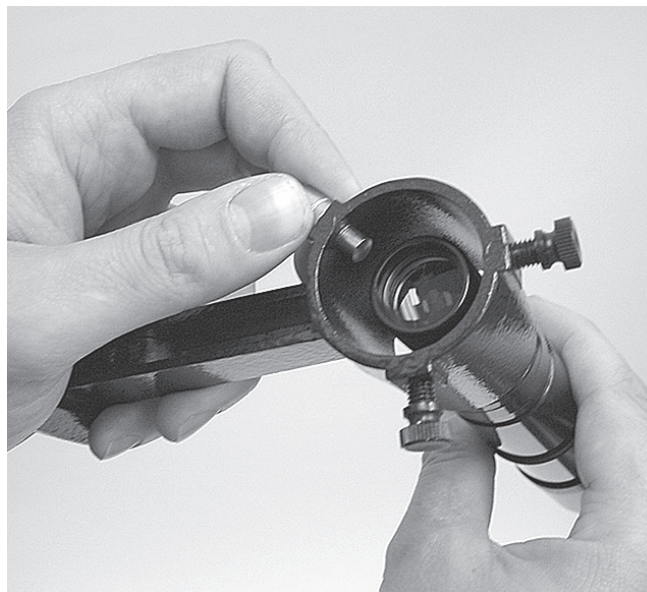

Figure 3b. Pull-back on the tensioner and slide the finder scope into its bracket until the O-ring is seated in the bracket ring
10. To place the finder scope in the finder scope bracket, first unthread the two black nylon screws until the screw ends are flush with the inside diameter of the bracket. Place the O-ring that comes on the base of the bracket over the body of the finder scope until it seats into the slot in the middle of the finder scope. Slide the eyepiece end (narrow end) of the finder scope into the end of the bracket's cylinder opposite the alignment screws while pulling the chrome, spring-loaded tensioner on the bracket with your fingers (Figure 3b). Push the finder scope through the bracket until the O-ring seats just inside the front opening of the bracket's cylinder. Now, release the tensioner and tighten the two black nylon screws a couple of turns each to secure the finder scope in place.